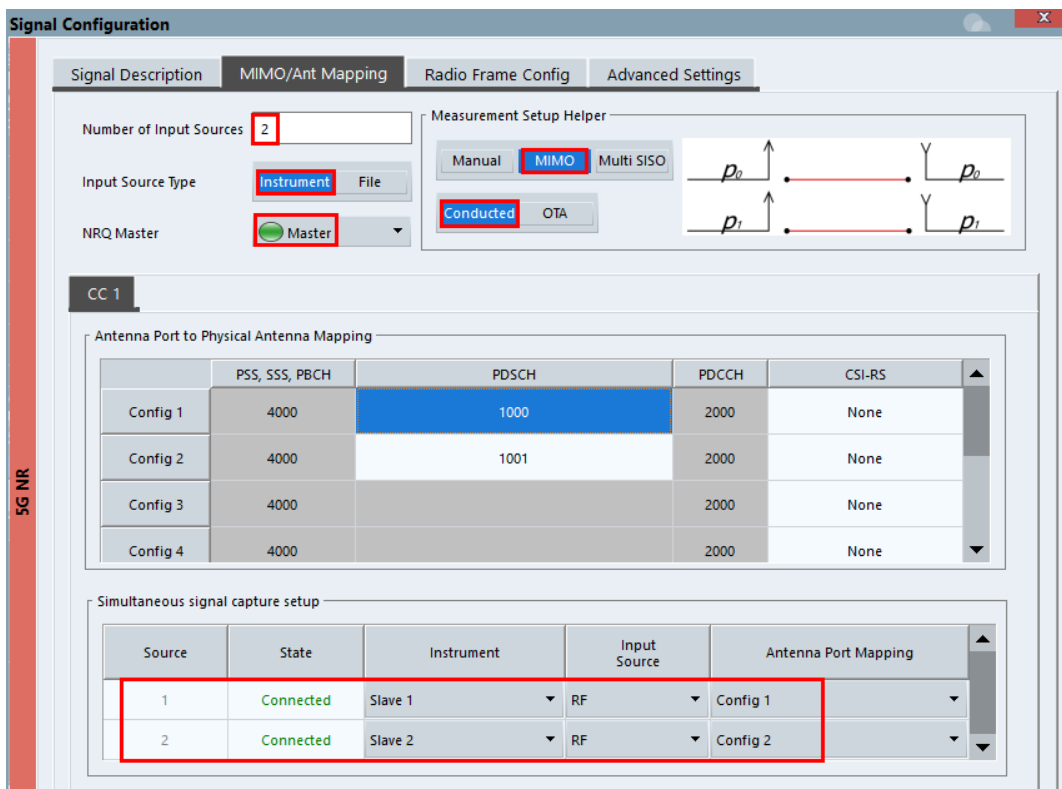

Fig. 4-10 MIMO setup and antenna port (AP) to physical antenna mapping with NRQ6
3. In the opened configuration window (see Fig. 4-10), enter the number of MIMO layers in the field "Number of Input Sources". For example, "2" for MIMO 2x2